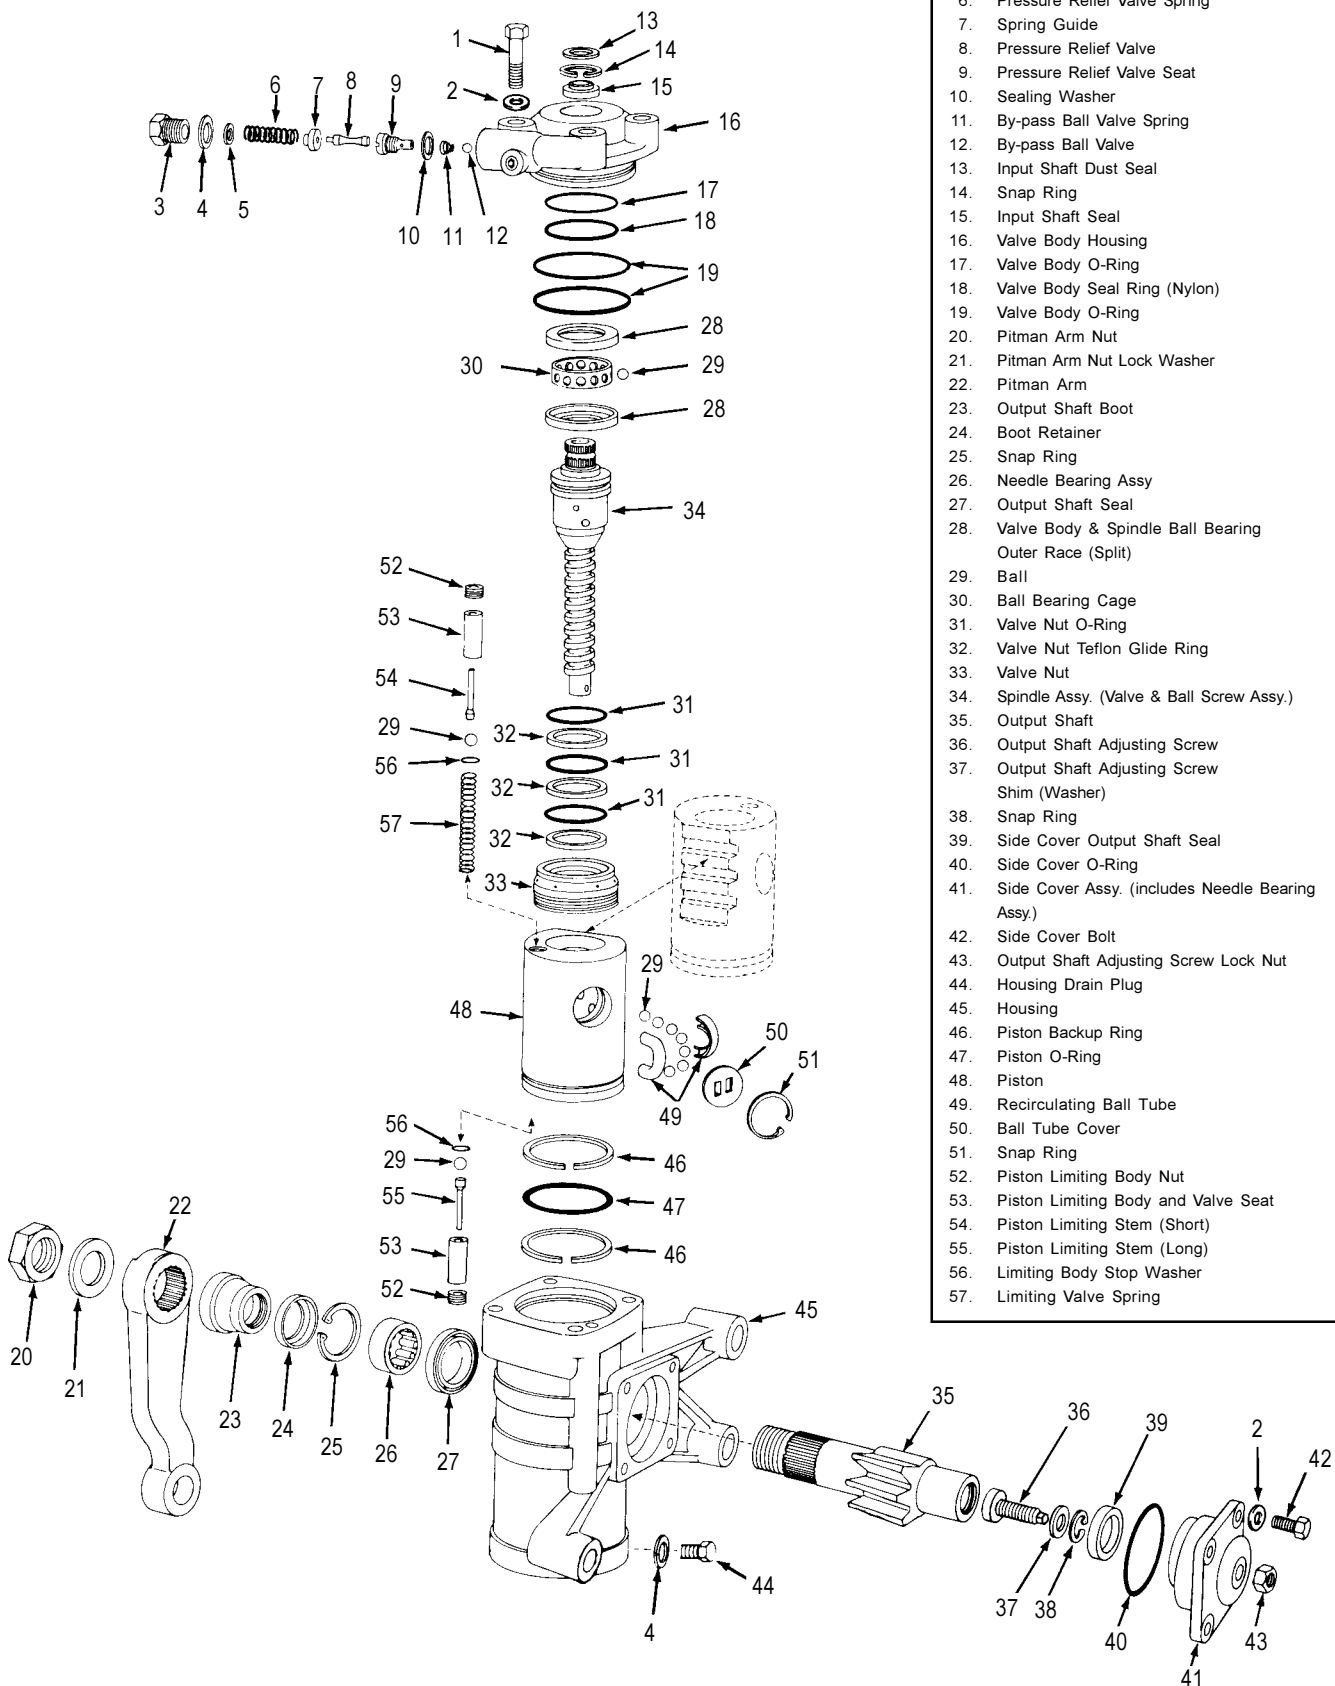

FIGURE 7
3. Loosen and remove the four bolts(1) from the valve body with a 22mm socket. (See Figures 7 & 9)
CAUTION: Do not use heat or pound on the pitman arm or output shaft as damage can result. These components must be replaced rather than repaired if they are damaged. Remove any accumulated dirt, grease, grime, and corrosion from the exposed portion of the output shaft to facilitate removal through its seal. (See Figure 7)
6. Loosen and remove the lock nut(43) from adjusting screw(36) on the side cover, using a 24mm socket. Remove the four bolts(42) from the side cover(41) with a 22mm socket. (See Figures 7, 11 & 12)
10. Mark or otherwise identify the limiting valve stems (54 & 55) with regard to which end of the piston(48) each is located. **IMPORTANT:** These stems **must** be installed in the same end of the piston from which they are removed. (See Figure 7)
18. Then remove the dust seal(13), snap ring(14) and the seal(15) from the valve body(16). (See Figures 7 & 26)